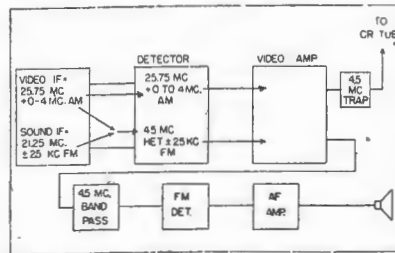

Fig. 2.—Operation of the "Inter-carrier" television system.
Fig. 2.—The practical form of the cathode and anode construction used in the high speed X-ray tube. The cathode is a sharp-edged paddle set in a slot in the trough-shaped auxiliary electrode, the shape of which provides a focussing cup.
The tube structure used is illustrated in Fig. 2. The tungsten point is replaced by a small rectangular piece of molybdenum, which acts as the cathode. The auxiliary cathode consists of the through-shaped block, which provides a focussing cup. The sharpened edges of the molybdenum cathodes are located close to the edge of the slot in the auxiliary electrode,
(5) This 4.5 mc FM beat is amplified in the video amplifier. It is then detected in a discriminator and passed through the AF amplifier to the speaker. These operations are illustrated in Figure 2. The system thus eliminates the need for a sound IF channel and, in addition, the receiver is less affected by oscillator drift, since the sound frequencies will not normally move out of the wide video band pass.